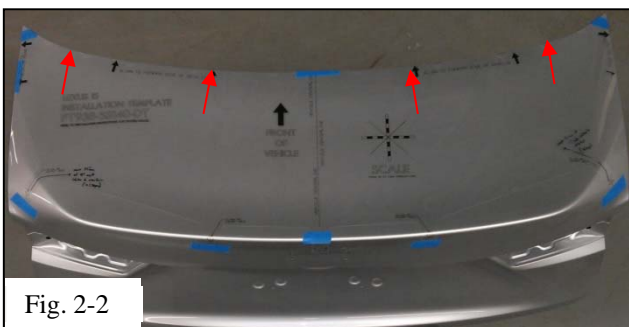

Fig. 2-2
- (b) Align the forward edge of the template with the leading edge of the trunk lid (Fig 2-2).